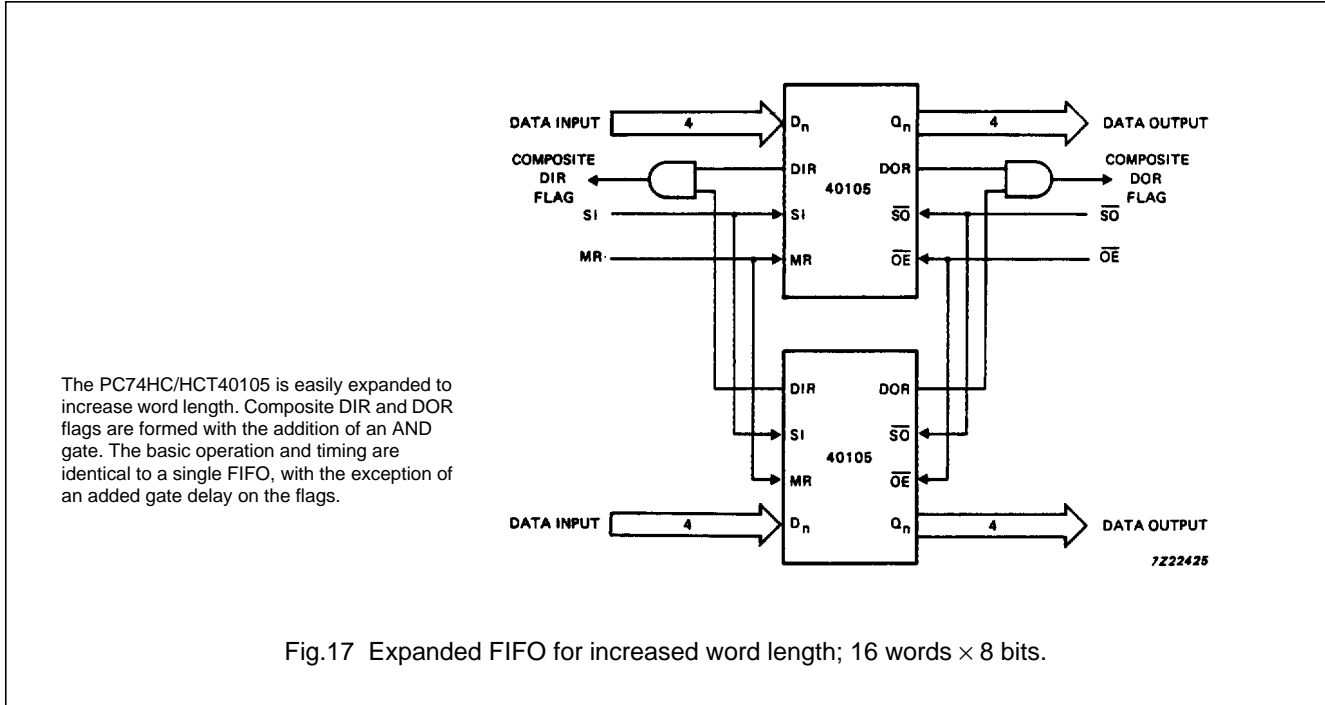
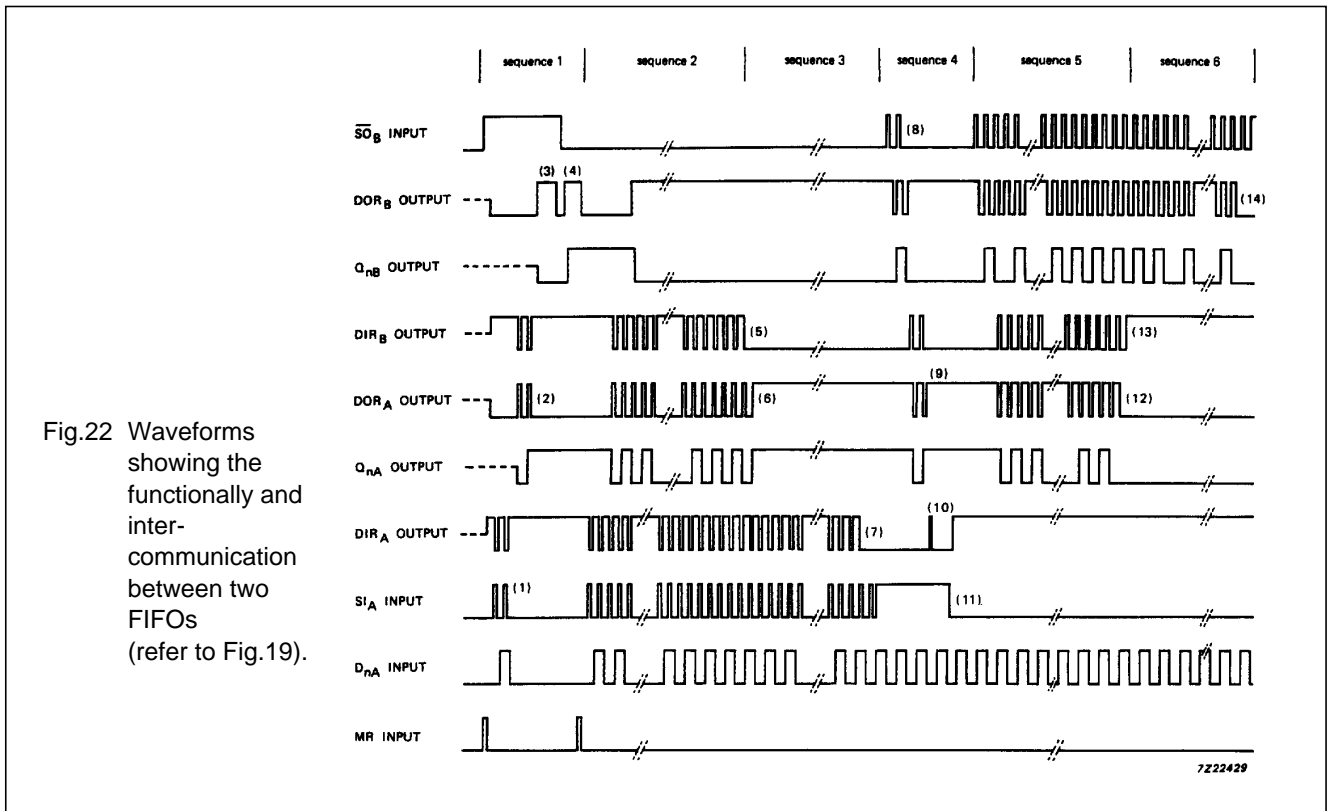

Fig.17 Expanded FIFO for increased word length; 16 words x 8 bits.
Fig.22 Waveforms showing the functionally and inter-communication between two FIFOs (refer to Fig.19).
Fig.22 shows the waveforms at all external nodes of both FIFOs during a complete shift-in and shift-out sequence.
The PC7HC/HCT40105 is easily cascaded to increase word capacity without any external circuitry. In cascaded format, all necessary communications are handled by the FIFOs. Figs 17 and 19 demonstrate the intercommunication timing between FIFOA and FIFOB. Fig.22 gives an overview of pulse and timing of two cascaded FIFOs, when shifted full and shifted empty again.
**Note to Fig.22**